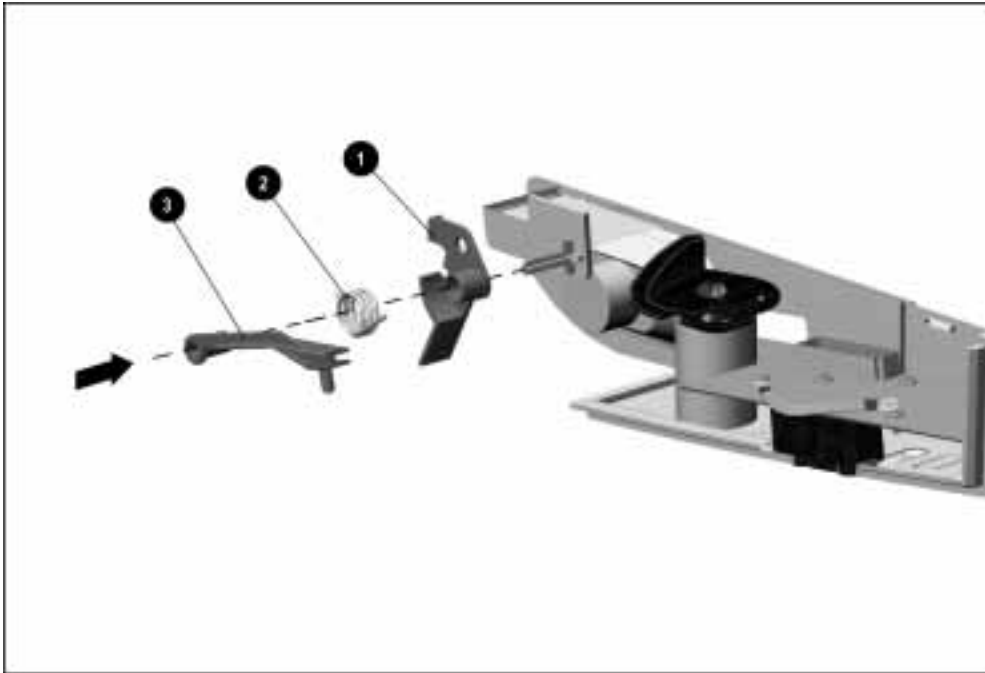

Figure 5-47. Proper Position of the C/U Actuator Assembly
NOTE: The C/U actuator assembly should not be disassembled during removal and installation of the control panel assembly. However, if it should be removed, refer to Figure 5-47 for the proper position of the security actuator ❶, torsion spring ❷, and MultiBay security arm ❸.